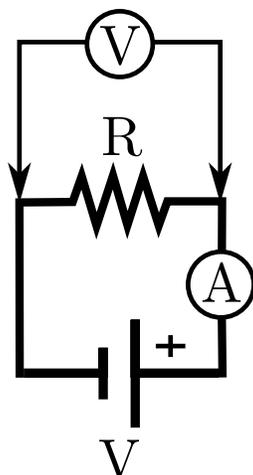

Figure 5: The direct current circuit with ammeter inserted.
4. Next, configure the second multimeter as an ammeter: connect your test leads to the **COMMON** and **mA** inputs, and select the **DCmA** (Direct Current milliAmps) Function; see Figure 3b. Again, you must choose an appropriate **RANGE**. You measure current *through* a device, which means you must insert the meter *into* the circuit: you must “cut” the circuit, and “splice” the meter into the “hole”. In this case, you should insert the meter between the output of the power supply and the resistor. Make sure the voltmeter is still connected across the resistor. At this point, you should have recreated the circuit in Figure 5. Again, slowly raise the voltage output, and observe the changes in the voltage and current values as measured on the respective meters.